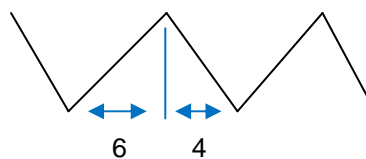

Figure 4-7 Triangle wave
- **Triangle:** Users have to set a value in the **Position** box, a value in the **Amplitude** box, a value in the **Period** box, a value in the **Phase** box, and a value in the **Ratio** box. A triangle wave in the range of the value in the **Position** box to the value in the **Position** box plus the value in the **Amplitude** box is generated. The ratio of the time for which the triangle wave generated moves up to the period of the triangle wave depends on the value in the **Ratio** box. In figure 4-7, the ratio of the time for which the triangle wave moves up to the period of the triangle wave is 0.6.